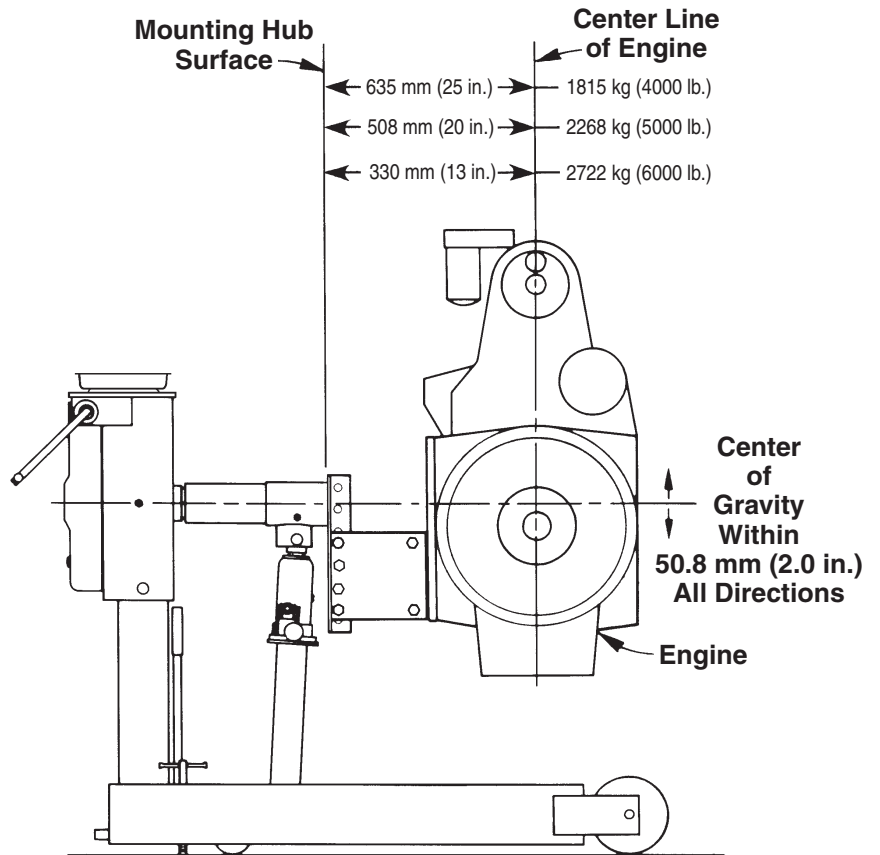

Figure 4
5. See Figure 4. Align the engine (with side plates attached to the adapter plate) with the universal adapter plate on the engine stand. Raise or lower the engine until its center of balance is in-line with the rotating shaft of the engine stand. *Note: The engine's center of balance (greatest concentration of weight) is usually about 50.8 mm (two inches) above the center of the crankshaft.*